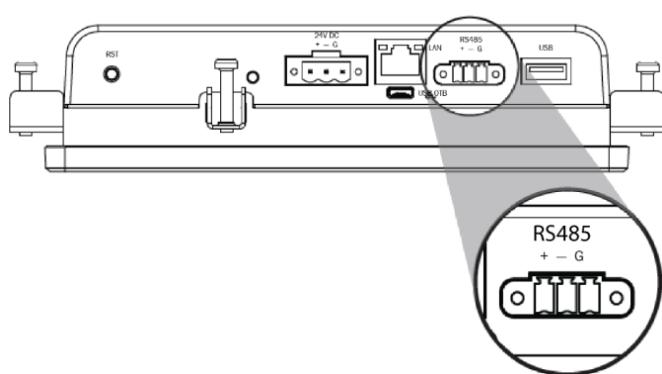

Fig. 10 — Wiring TruVu™ ET Display to Rnet Communication Port
- Wire the TruVu™ ET display’s **RS485** connector to the controller’s **Rnet** port, **G** to **Gnd**, **+** to **Rnet+**, **-** to **Rnet-** using 2-conductor 22 AWG wire with a maximum distance of 500 ft (152 m). See Fig. 10 for the ET display to the Rnet communication port.